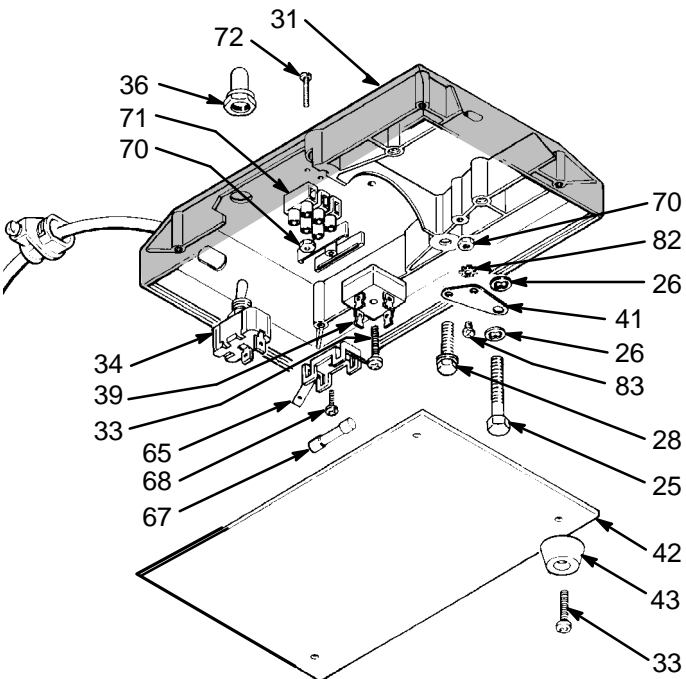

Fig 10
Fuse (See Fig 10)
ON/OFF Switch (See Fig 10 & 11)
2. Remove the boot (36). Pull the switch (34) out of the base. See Fig 10.
3. Install the new switch, aligning the tab in the base with the slot in the switch. See Fig 10. Install the boot.
To maintain grounding continuity in your system, and reduce the risk of electric shock, be sure the green ground wire from the power supply cord is properly connected to the grounding screw (83) as instructed in Step 4, above. Also be sure the screw (25) is tightly screwed into the base. See Fig 10 and 11.